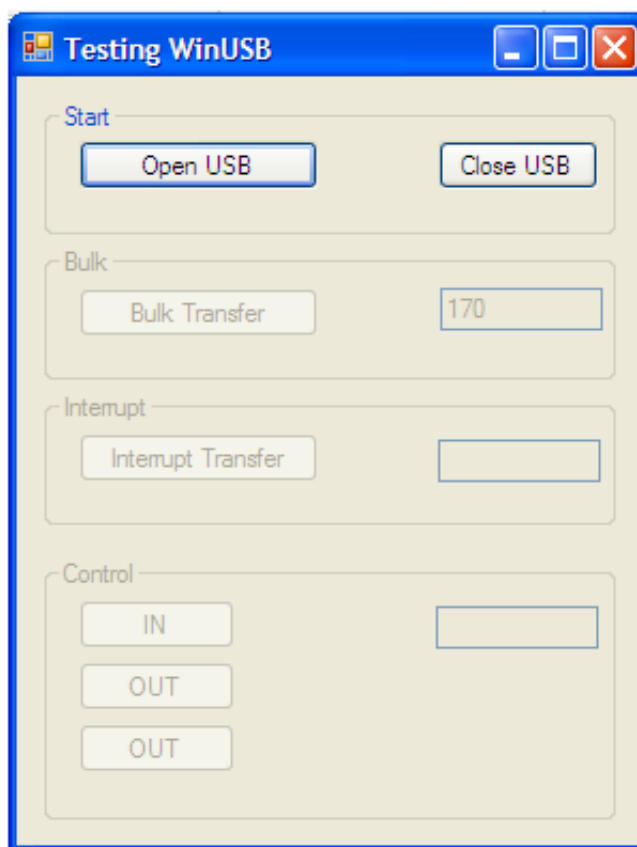

Figure 7. C# application communicating with the USB device
11. Using C# application, press “Open USB” button. Then a number appears inside the upper text field of the GUI as shown in Figure 7. GUI and USB communication can be stopped by pressing “Close USB”. Basic connection and communication is completed.